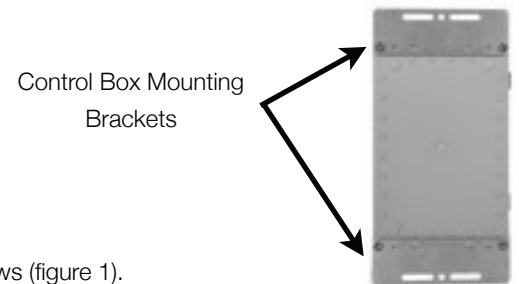

Figure 1
2. Attach the two Control Box Mounting Brackets to the back with the included screws (figure 1).